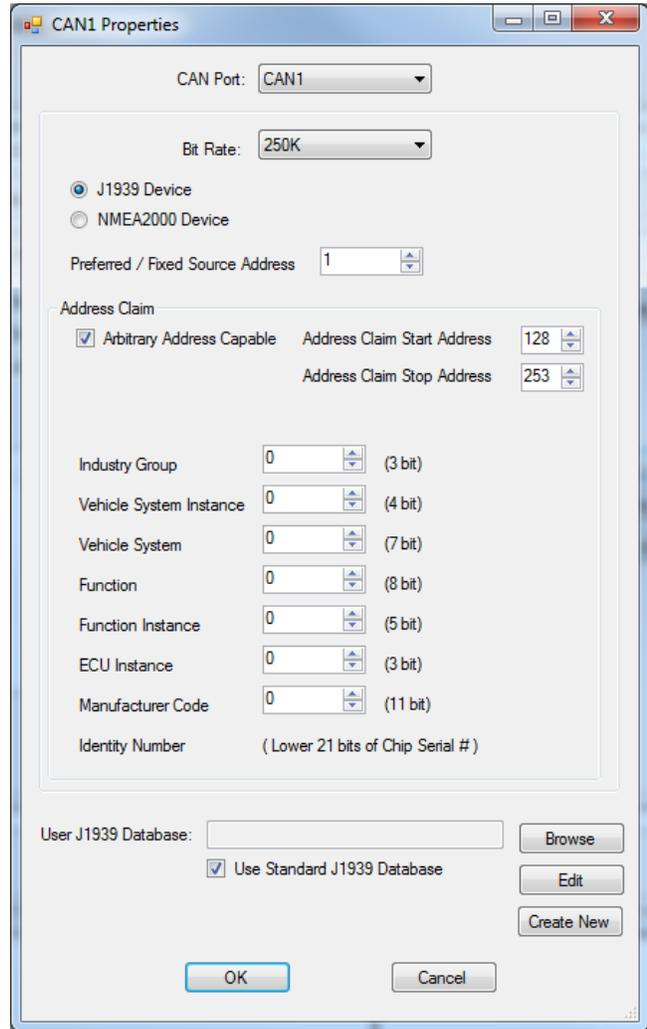

Figure 2-22- CAN / J1939 Properties
6. Click **ADD**. From the drop-down menu, select the CAN port to use (must have been installed prior to this step). Refer to Figure 2-22. All the configuration parameters for the J1939 / NMEA 2000 communications must be configured here. Refer to the **P-Series EZ LADDER Toolkit Manual** for more in-depth information on configuring and using SAE J1939 and NMEA 2000.